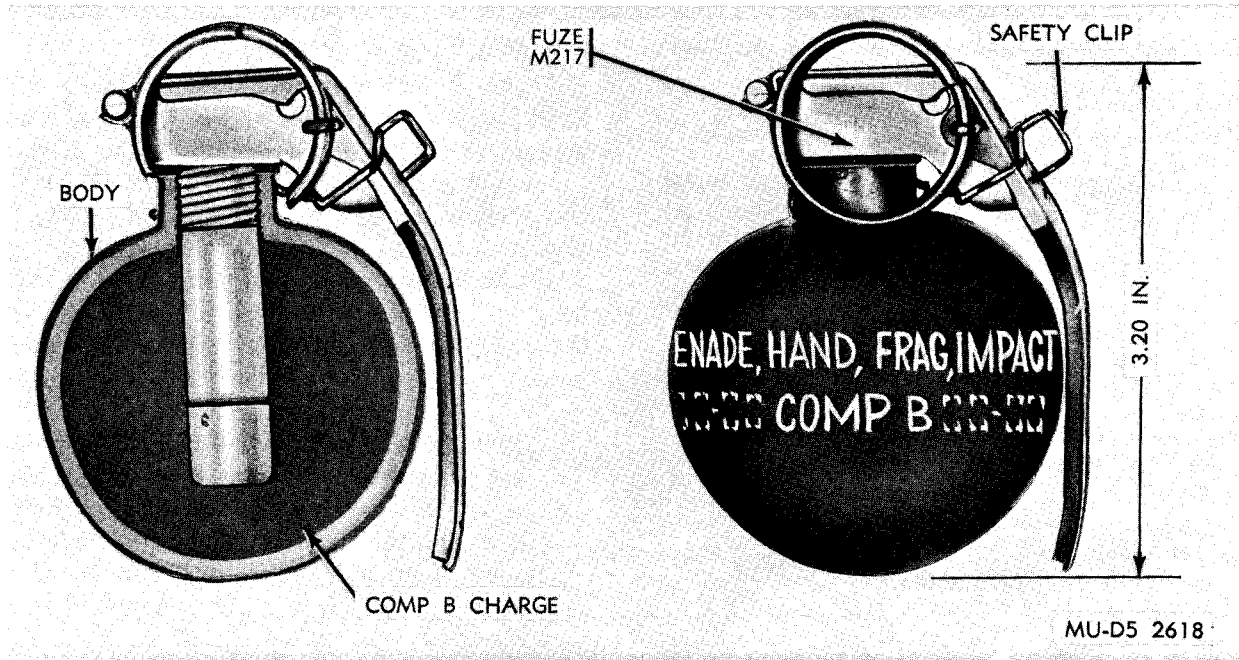

Figure 2-9. Fragmentation hand grenade M68.
a. *General.* Hand Grenade M68 (fig. 2-9) is Hand Grenade M59 with a safety clip. Each grenade is assembled with an electrical impact fuze.